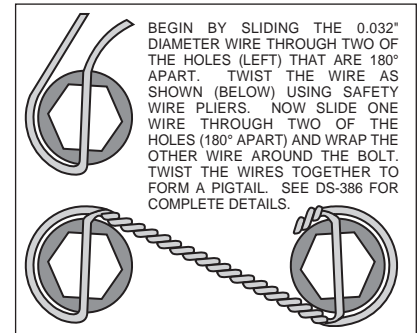

Figure 2. Safety Wire Diagram
- Install wheel studs (1) into the hub (2). Torque to 77 ft-lb. **NOTE:** *There are two five lug patterns in the hub (5 x 4.50 and 5 x 4.75).* Make sure of the correct hole pattern for the correct wheel application before installing studs into hub.
- Pack the large inner bearing cone (use existing) with high temperature disc brake bearing grease (available from your local auto parts store) and install into the backside of the hub (2).
- Install the grease seal (3) by pressing into the backside of the hub (2).
- With the larger I.D. side of the rotor (4) facing away from the hat (5), bolt rotor (4) to hat (5) through the backside of the rotor using washers (6) and bolts (7). Using an alternating sequence, apply red *Loctite*® 271 to the threads and torque bolts to 155 **in-lb**. For an added measure of security, the bolts may be safety wired using standard 0.032 inch diameter stainless steel safety wire as shown in Figure 2. Please refer to Wilwood's data sheet DS-386 (available at www.wilwood.com/Pdf/DataSheets/ds386.pdf) for complete safety wire installation instructions.